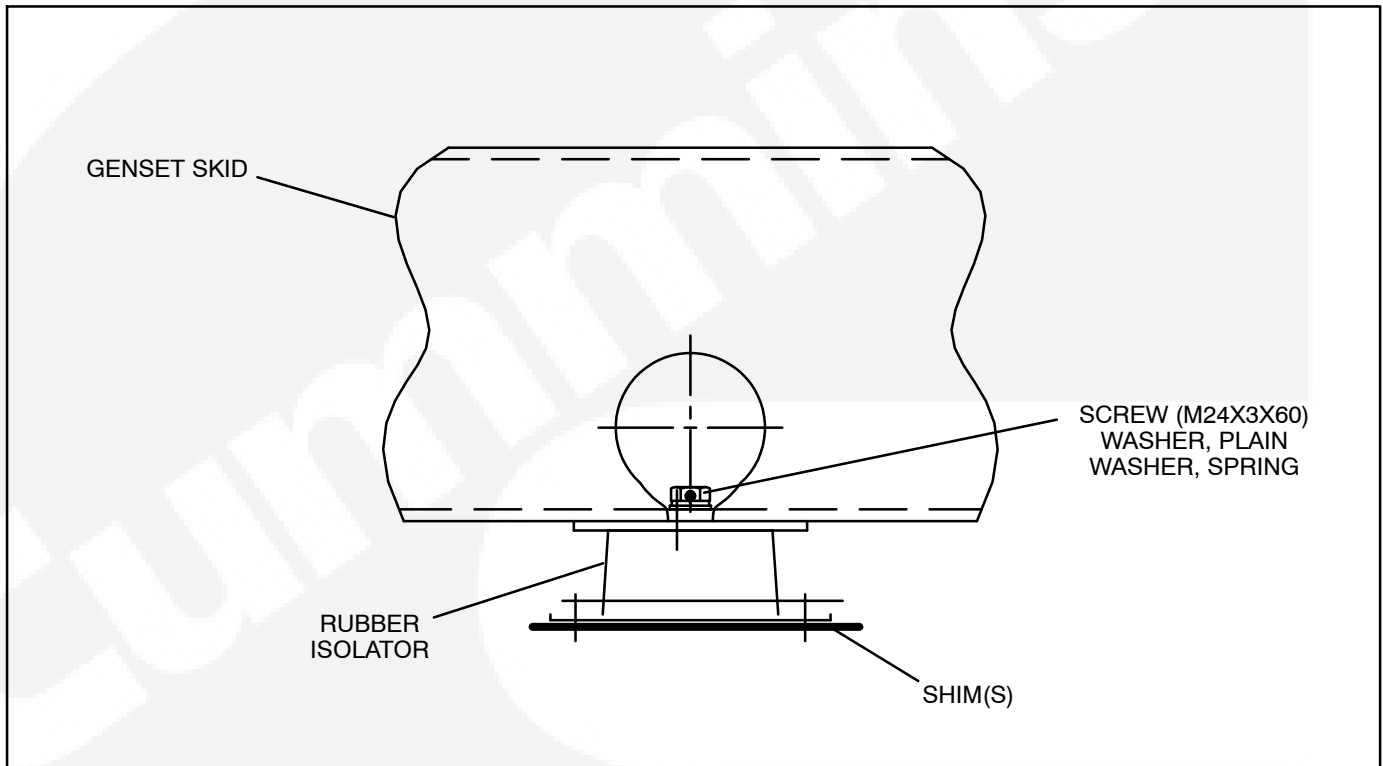

FIGURE 3-4. VIBRATION ISOLATOR (RUBBER TYPE)
1. Place the vibration isolators (Figure 3-4) on the genset support structure. The isolators should be shimmed to ensure that all of the isolator